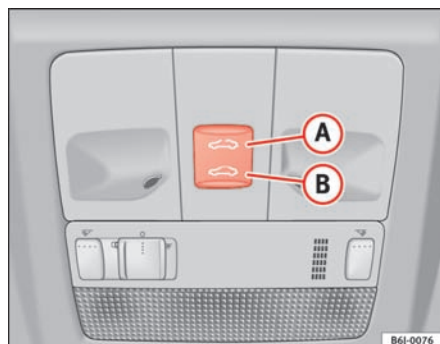

Fig. 49 Panoramic/tilting sunroof
- Press and keep pressed down the button **B** ⇒ fig. 49 ⇒ ⚠, the roof starts to close until the button is released.